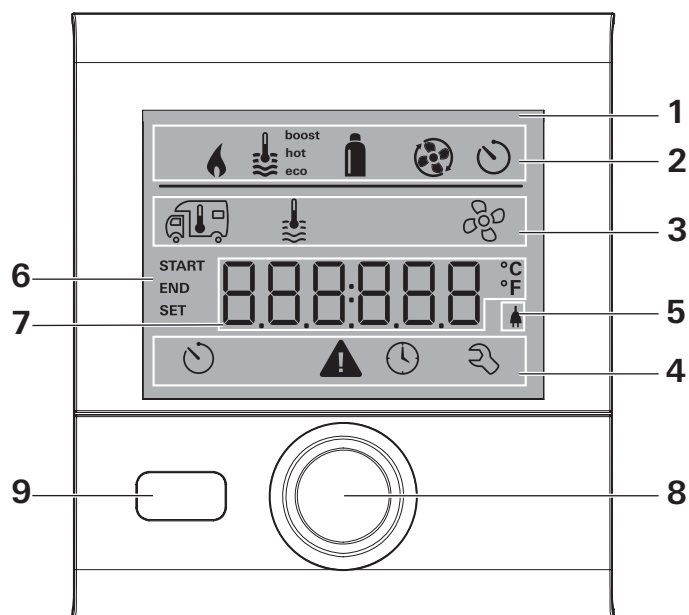
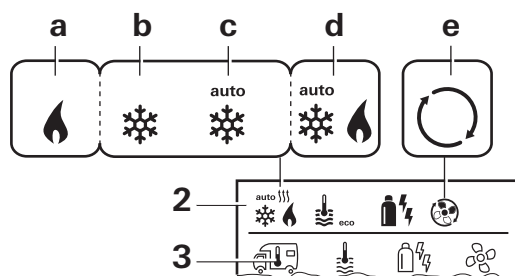

Fig. 1
Fig. 4
The functions of menu lines (Fig. 1 – 3, 4) of the CP plus can be selected in any sequence. The operating parameters are shown in the status line (Fig. 1 – 2) or in the display (Fig. 1 – 6).
- Use the rotary push button (Fig. 1 - 8) to select the icon in the menu line (Fig. 4 - 3).
- Tap the rotary push button (8) to confirm the value.